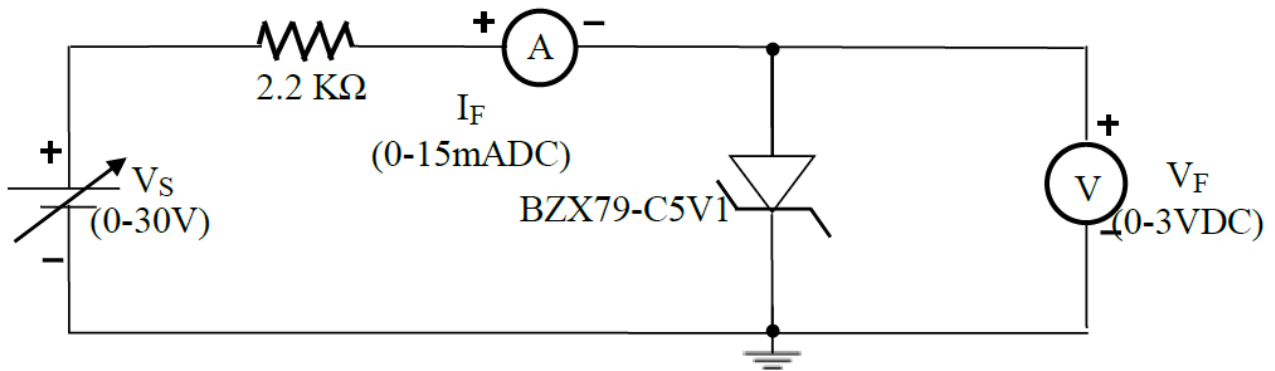

Fig. 1 Schematic for forward bias
1. Connect the circuit according to the schematic in Fig 1. Increase the voltage in steps of 2 volts up to 8V and then at 16V, 20V, 25V and 30V while noting down in Table 1 the corresponding forward current.